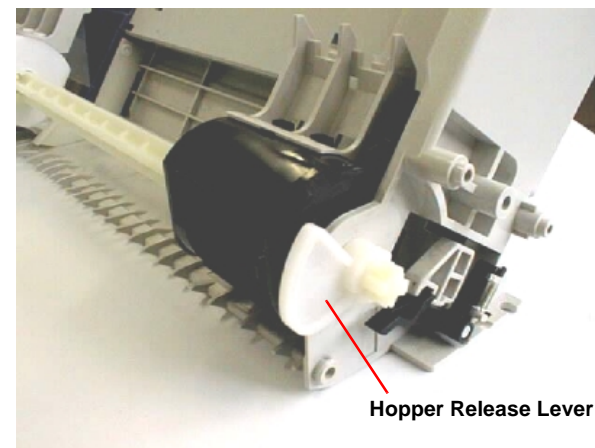

Figure 4-38. Assembling the LD Hopper Release Lever
- Be careful of the direction of the Hopper Release Lever when installing it. Refer to Figure 4-38.